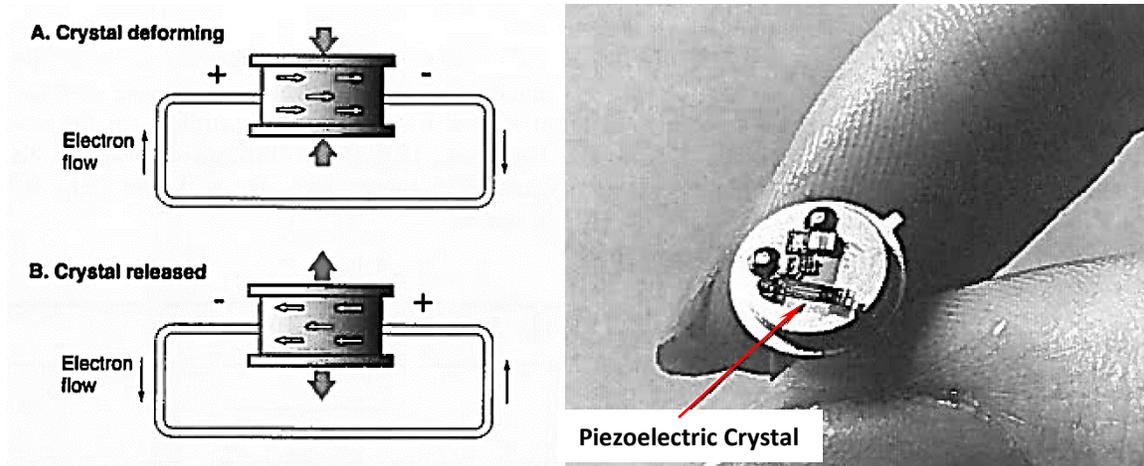

Figure 3.12: Piezoelectric Crystal
- 3-54 These crystals produce a potential difference only while deformation is occurring. If the crystal stops deforming, the potential difference returns to zero, even if the crystal is held in its deformed condition. As the crystal returns to its un-deformed shape, it produces another potential difference. This potential difference is the opposite of the first. Figure 3.12 on page 56 shows these effects.